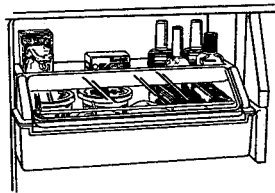

Figure 17
- To remove, open lid, place hand below center of upper shelf, lift straight up. See Figure 17.